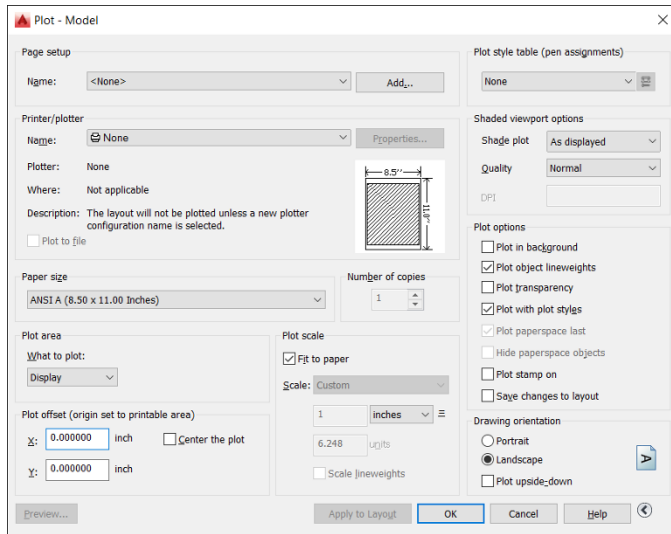

FIGURE 16-2:
The Plot dialog box reveals additional settings, as shown in Figure 16-2.
- 12. In the Plot Options area, make sure that the Plot with Plot Styles check box is selected and that the Save Changes to Layout check box is deselected. (See Figure 16-2.)**